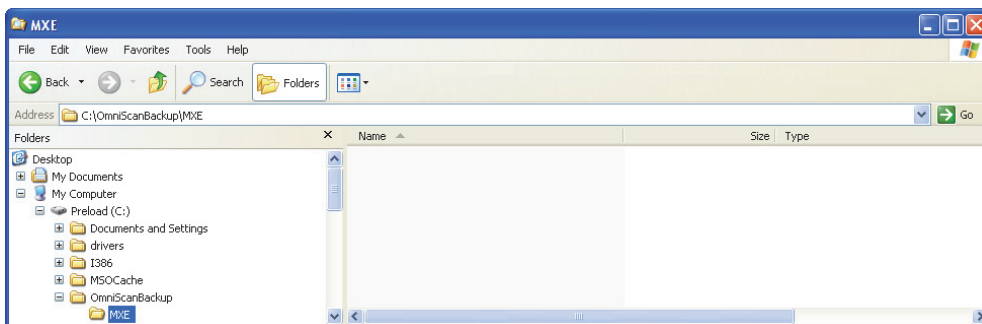

Figure 4-25 Creating a \MXE folder in the backup folder
- In the backup folder, create a folder for each application that you use on your OmniScan MX instrument (Figure 4-25 on page 99 presents an example for the MXE application).